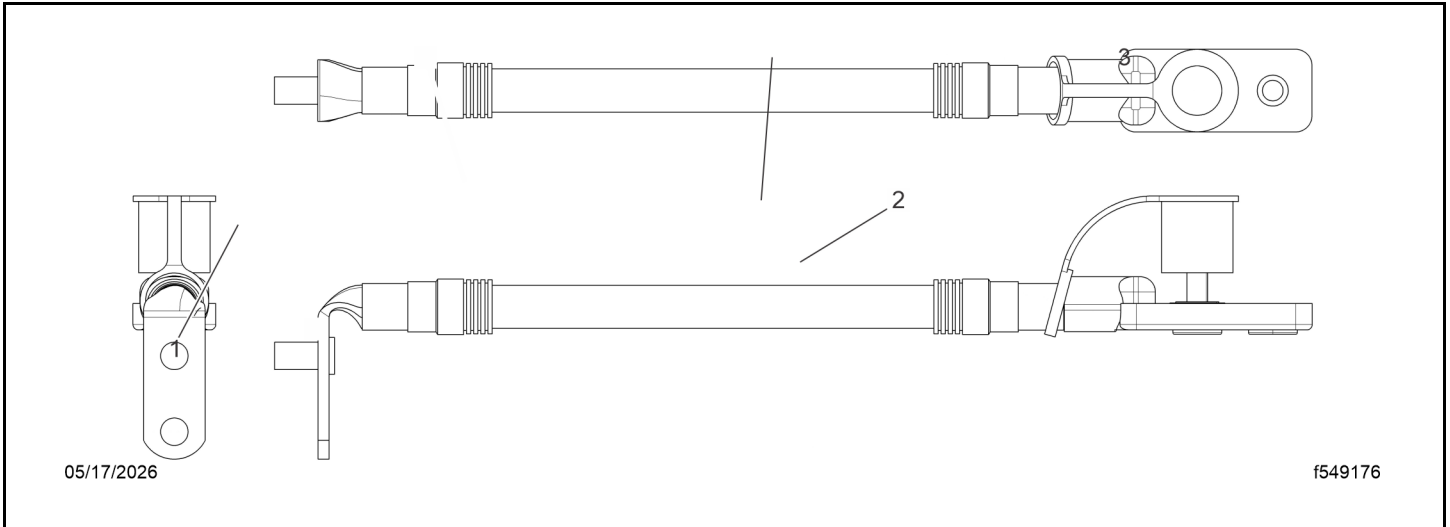

Fig 90, Jump-Start Cable Orientation
- g. Position the new terminal according to the orientation drawing. See Fig. Fig. 90.